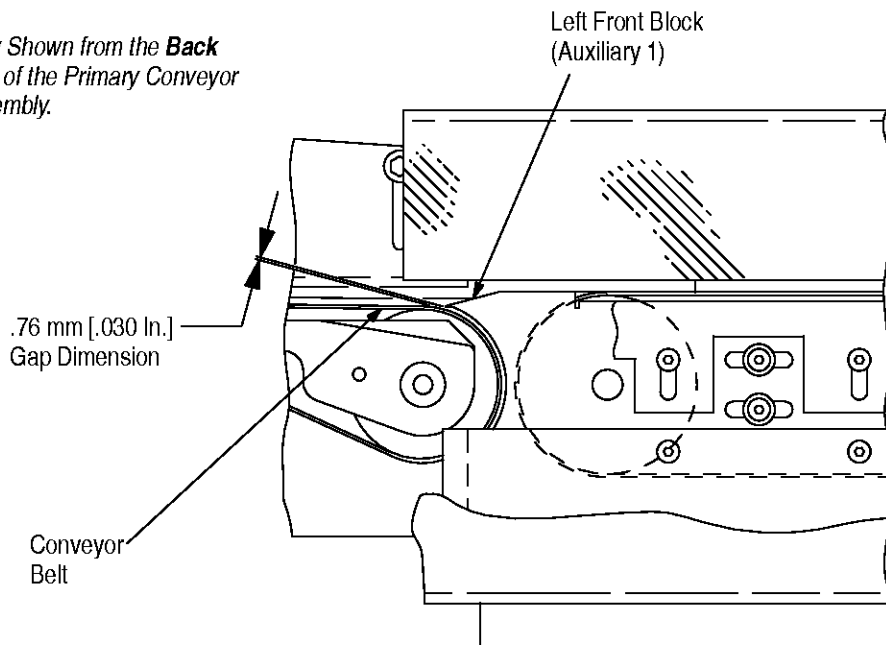

Figure 5
5. Measure the gap between the left front block, auxiliary 1, of the primary conveyor assembly and the conveyor belt of the machine conveyor. The primary conveyor assembly should be positioned so that the gap is approximately .76 mm [.030 in.]. See Figure 5.
5. Measure the gap between the left front block, auxiliary 2, of the additional conveyor assembly and the conveyor belt of the primary conveyor assembly. The gap should measure approximately .76 mm [.030 in.]. Refer to Figure 5.